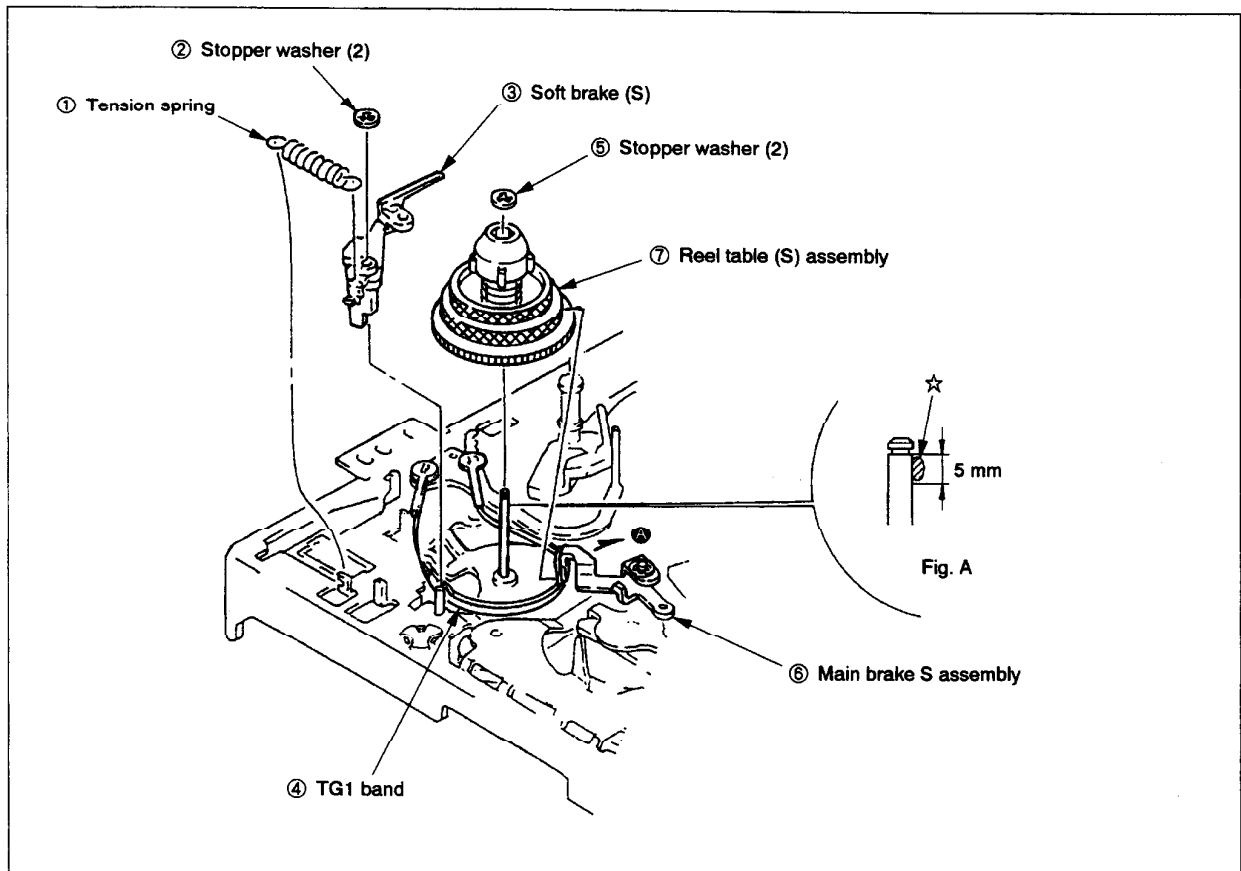

Fig. 3-23
3-21. REEL TABLE (S) ASSEMBLY (Fig. 3-23)
- 1) Remove tension spring ① from the chassis side.
- 2) Remove stopper washer (2) ② to pull out soft brake (S) ③.
- 3) Move TG1 band ④ over the reel table.
- 4) Remove stopper washer (2) ⑤.
- 5) While pressing main brake S assembly ⑥, pull out reel table (S) assembly ⑦.